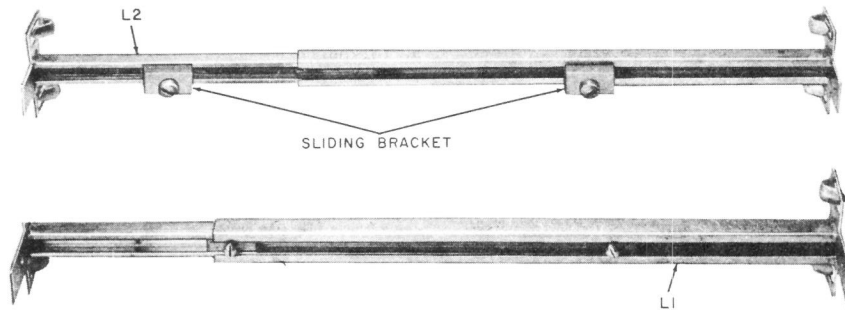
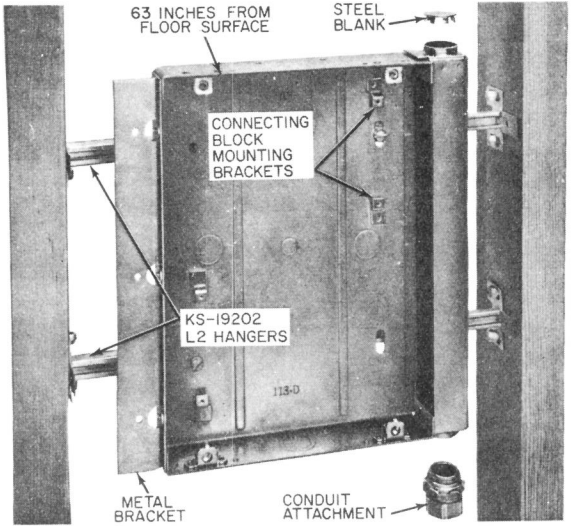

Fig. 9—KS-19202, List 1 (MD) and List 2 Hangers
Fig. 11—113D Apparatus Box, Typical Installation (Front View)
(1) Hanger, KS-19202, L2 (replaces KS-19292, L1 (MD)). KS-19202, L1 (MD) hanger (Fig. 9 and 10) is used to mount the 113A (MD) apparatus box (two required. KS-19202, L2 hanger (Fig. 9, 10, 11, and 12) is used to mount the 113C or 113D apparatus boxes in new wall construction (two required).
3.05 113A (MD) Apparatus Box: The 113A (MD) apparatus box is mounted by using two KS-19202, List 1 (MD) hangers (Fig. 9). The hangers are installed 6-9/16 inches apart and 1-3/8 inches from face of the stud (Fig. 10). Anchors are provided for securing the hangers to the building studs. The apparatus box is secured to the hanger using supplied screws.
3.07 113C and 113D Apparatus Boxes: The 113C or 113D apparatus box is mounted using two KS-19202, L2 hangers (Fig. 9). The box must be installed before the wall is placed. The spacing between hangers is 6-9/16 inches and the spacing from the stud face to the face of the sliding bracket is 1-3/8 inches (Fig. 10). The hangers are secured to the building studs using the stud anchors provided on the end of the hangers (Fig. 11 and 12). Fasten the box to the sliding brackets of the hangers with screws provided.♦